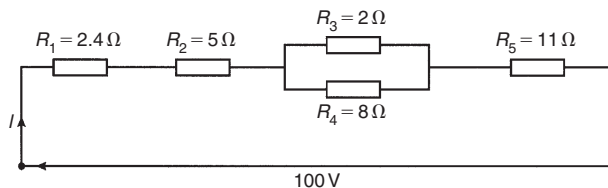

Figure RT2.1
- Resistances of  $5\ \Omega$ ,  $7\ \Omega$  and  $8\ \Omega$  are connected in series. If a  $10\ \text{V}$  supply voltage is connected across the arrangement determine the current flowing through and the p.d. across the  $7\ \Omega$  resistor. Calculate also the power dissipated in the  $8\ \Omega$  resistor. (6)
- For the series-parallel network shown in Fig. RT2.1, find (a) the supply current, (b) the current flowing through each resistor, (c) the p.d. across each resistor, (d) the total power dissipated in the circuit, (e) the cost of energy if the circuit is connected for 80 hours. Assume electrical energy costs 14p per unit. (15)
- The charge on the plates of a capacitor is  $8\ \text{mC}$  when the potential between them is  $4\ \text{kV}$ . Determine the capacitance of the capacitor. (2)
- Two parallel rectangular plates measuring  $80\ \text{mm}$  by  $120\ \text{mm}$  are separated by  $4\ \text{mm}$  of mica and carry an electric charge of  $0.48\ \text{C}$ . The voltage between the plates is  $500\ \text{V}$ . Calculate (a) the electric flux density (b) the electric field strength and (c) the capacitance of the capacitor, in picofarads, if the relative permittivity of mica is 5. (7)
- A  $4\ \text{F}$  capacitor is connected in parallel with a  $6\ \text{F}$  capacitor. This arrangement is then connected in series with a  $10\ \text{F}$  capacitor. A supply p.d. of  $250\ \text{V}$  is connected across the circuit. Find (a) the equivalent capacitance of the circuit, (b) the voltage across the  $10\ \text{F}$  capacitor and (c) the charge on each capacitor. (7)
- A coil of 600 turns is wound uniformly on a ring of non-magnetic material. The ring has a uniform cross-sectional area of  $200\ \text{mm}^2$  and a mean circumference of  $500\ \text{mm}$ . If the current in the coil is  $4\ \text{A}$ , determine (a) the magnetic field strength, (b) the flux density and (c) the total magnetic flux in the ring. (5)
- A mild steel ring of cross-sectional area  $4\ \text{cm}^2$  has a radial air gap of  $3\ \text{mm}$  cut into it. If the mean length of the mild steel path is  $300\ \text{mm}$ , calculate the magnetomotive force to produce a flux of  $0.48\ \text{mWb}$ . (Use the B-H curve on page 83) (8)